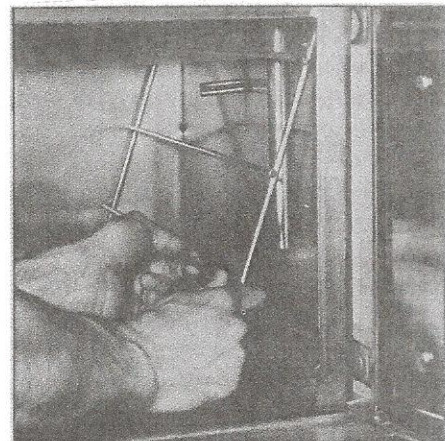

Figure 1
1. Remove left and right pan supports by sliding bottom toward center of compartment. Lift center support, then pull down and away from pins (figure 1).